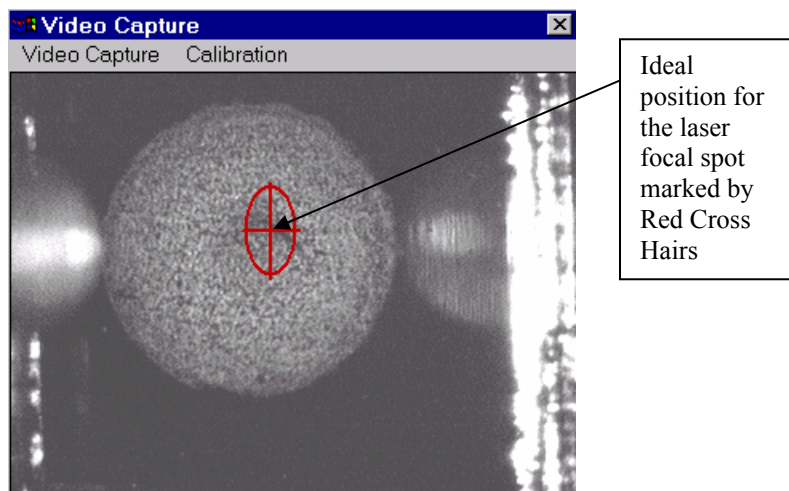

Fig. 8-4 Image of matrix crystals
Step 2. Switch ON the laser, spiral/raster motion OFF. Set the maximum laser power with the attenuator screw. Now you should see the matrix crystal's evaporation at the place where the laser beam is focused (Fig. 8-4)
By comparing the location of the ablation hole with the ideal position shown by the Red Cross-Hairs, we can see that the laser focus is close to its ideal position, but slightly above and to the left. The deviation of the focal point shown in Figures 8-4 and 8-5 is acceptable, especially with *PDF* activated, but the source sensitivity can possibly be improved by fine tuning.